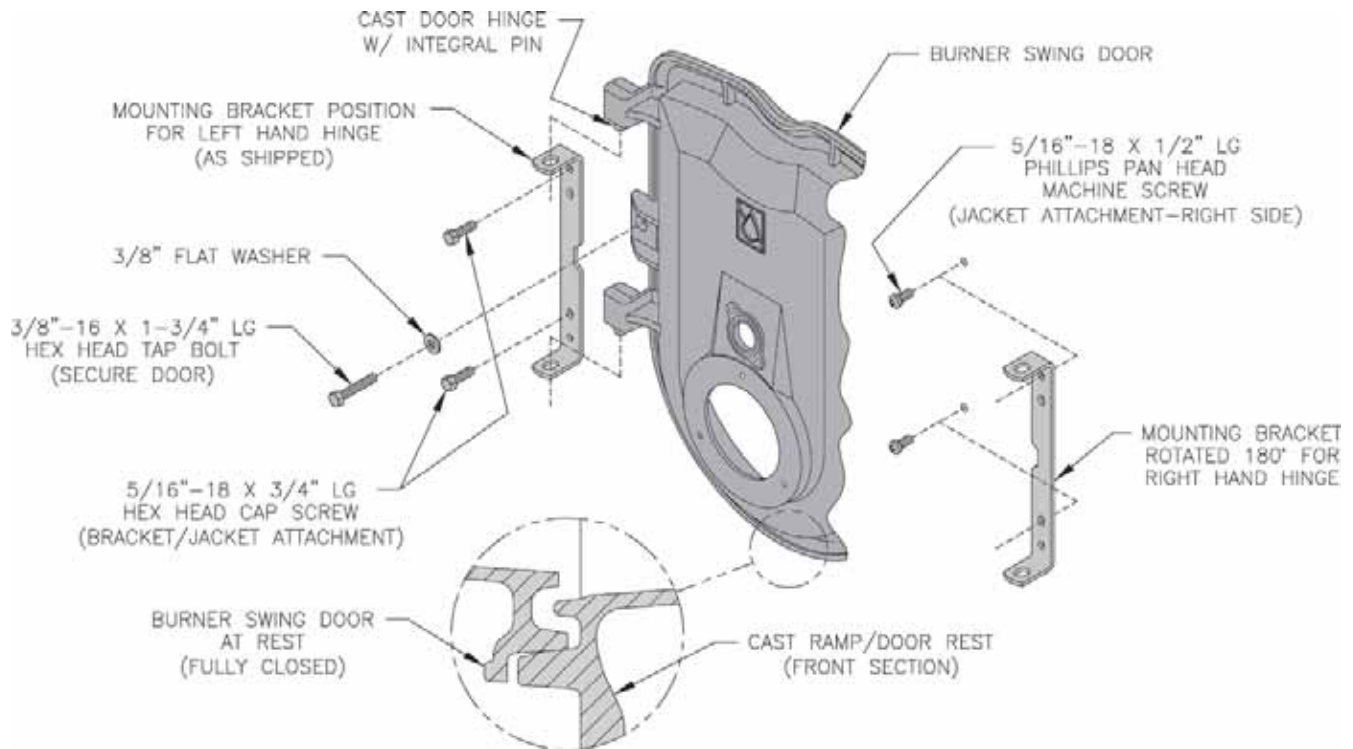

Figure 4A: Partial Front View - Burner Swing Door Mounted to Boiler - Fully Closed and Secured
(see Figures 4A and 4B).
To reverse hinge arrangement (see Figure 4A):
- To close Burner Swing Door (see Figures 4A and 4B):
(protruding from the bottom of the front section casting - see Figure 4A).